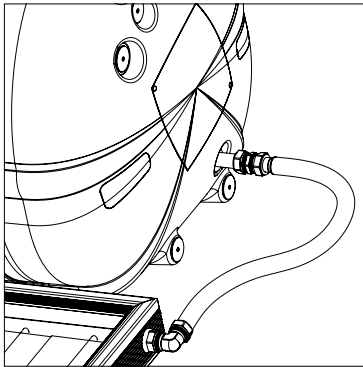

Figure 11. Hot pipe (open circuit)
- **Open Circuit System** – see *Figure 11*